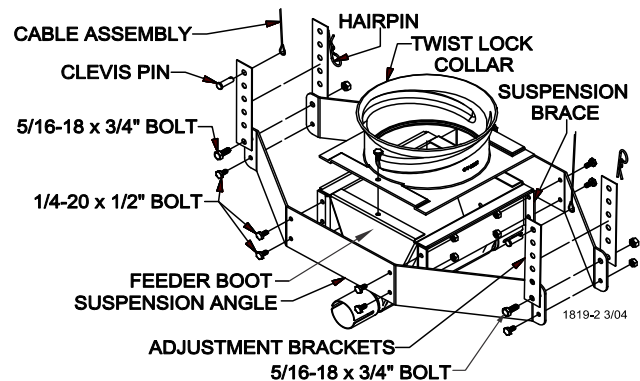

Figure 4. Hopper Assembly (Bottom)
5. Assemble suspension angles and suspension braces around feeder line boot (single or twin), using 1/4-20 x 1/2" Hex bolts and nuts (supplied in hardware package). **See Figure 4.**
6. Assemble the twist lock collar to the top of the feeder line boot (single or twin) using 1/4-20 x 1/2" bolts and lock nuts (supplied in hardware package). **See Figure 4.**
8. Two cable assemblies (cable with a sleeve clamp and a 5/32 thimble) are supplied with the suspension kit to support the hopper. Attach the cable assemblies to the adjustment brackets using the top holes of the adjustment brackets. **See Figure 4.**